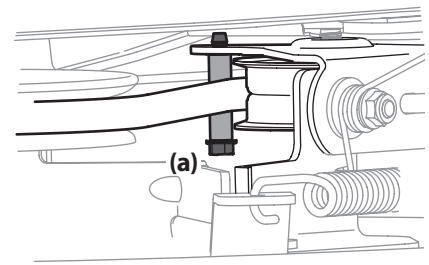

Figure 4-11
6. Remove the belt keeper (30" decks only) by removing the hex bolt (a) that secures it. See Figure 4-11.